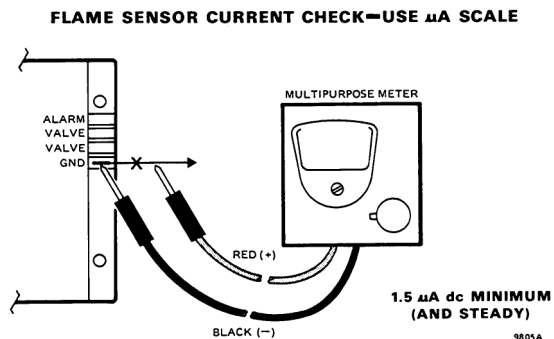

Fig. 11. S87 flame current measurement.
1. Connect a meter (dc microammeter scale) in series with the flame signal ground wire as shown in Fig. 11. Use the W136A Test Meter or equivalent. Disconnect the ground wire at the S87. Connect the red (positive) meter lead to the free end of the ground wire. Connect the black (negative) meter lead to the quick-connect ground terminal on the S87.